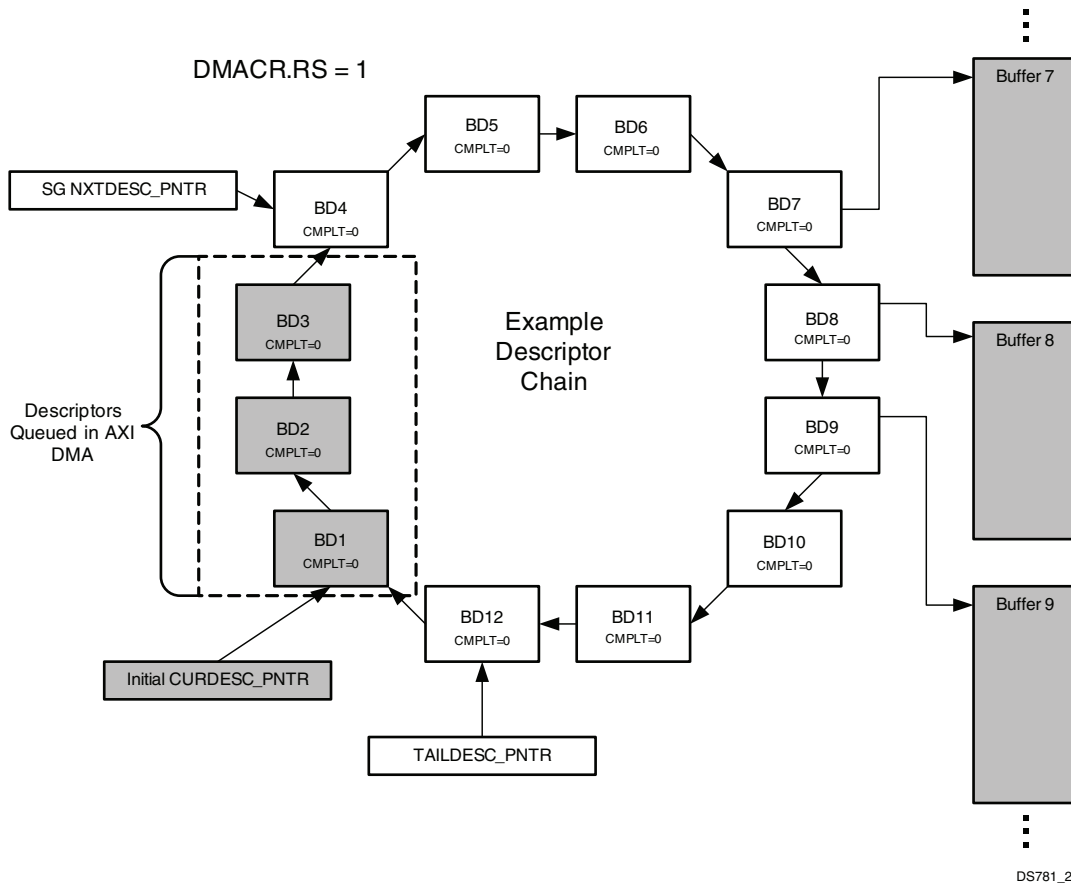

Figure 28: Beginning Execution
2. Beginning execution (DMACR.RS=1), as shown in Figure 28.